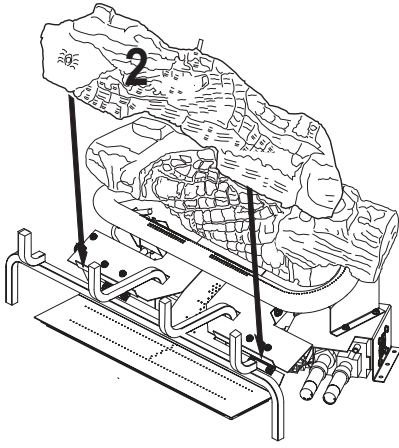

Figure 38 - Installing Log # 2
1. Place the middle log (#2) in front of the U-burner and against the edges of the plate as shown in Figure 38, page 22.